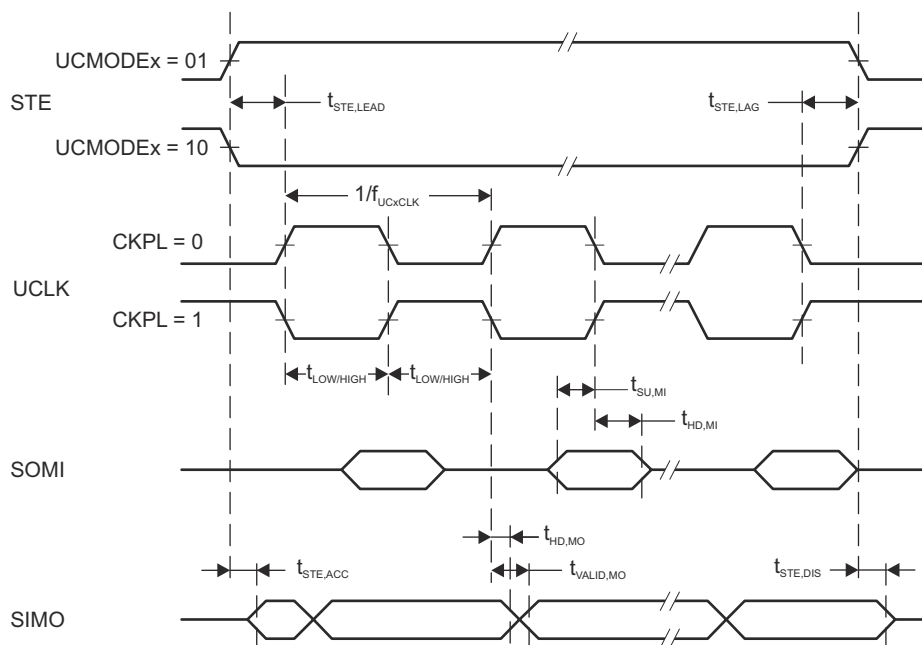
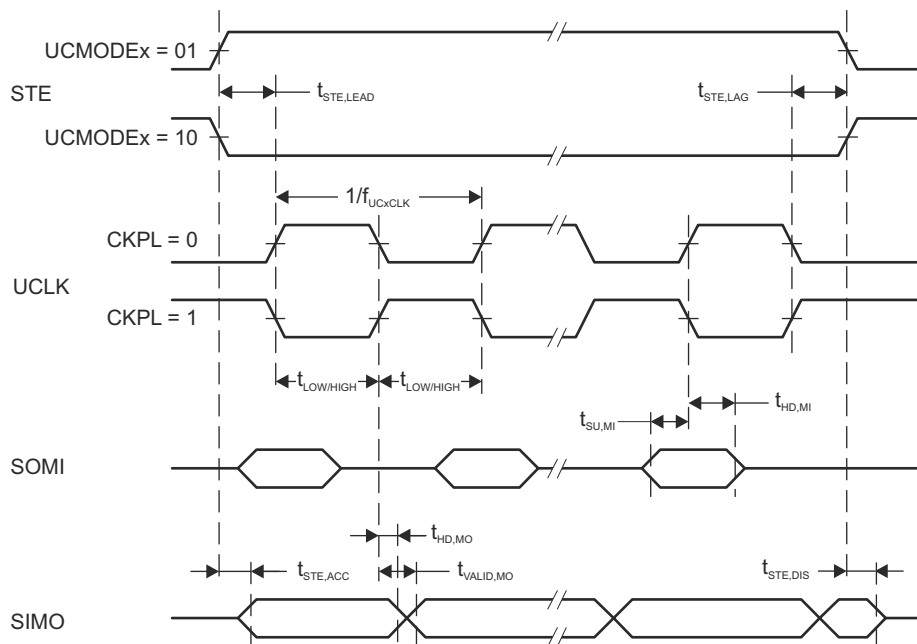

图 8-13. SPI Master Mode, CKPH = 0
图 8-14. SPI Master Mode, CKPH = 1
- (2) Specifies the time to drive the next valid data to the SIMO output after the output changing UCLK clock edge. See the timing diagrams in 图 8-13 and 图 8-14.
- (3) Specifies how long data on the SIMO output is valid after the output changing UCLK clock edge. Negative values indicate that the data on the SIMO output can become invalid before the output changing clock edge observed on UCLK. Refer to the timing diagrams in 图 8-13 and 图 8-14.